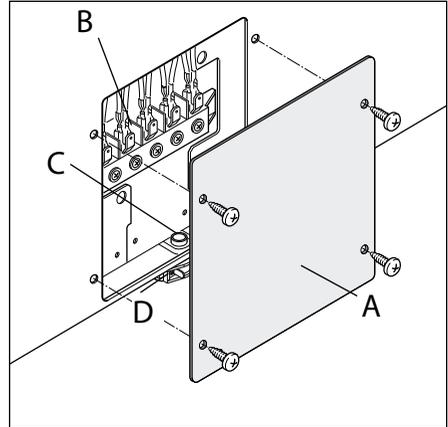
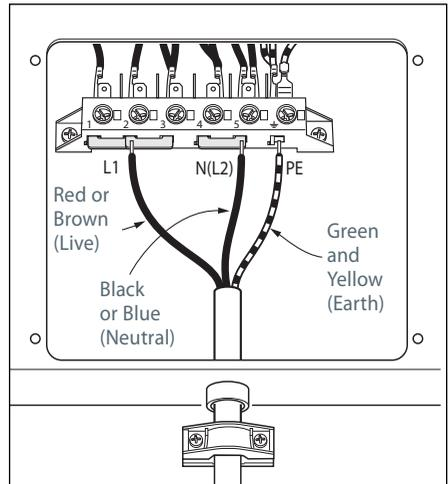

Fig. 16a Accessing the terminal block
Fig. 16b Electrical connection
- 3 Check the position of the U bolts on the terminal block "B" (Fig. 16a) corresponds to the connection diagrams in Fig. 16b and Fig. 16c.
- 7 Connect the phase and earth cables to terminal "B" according to Figs. 16b and 16c.